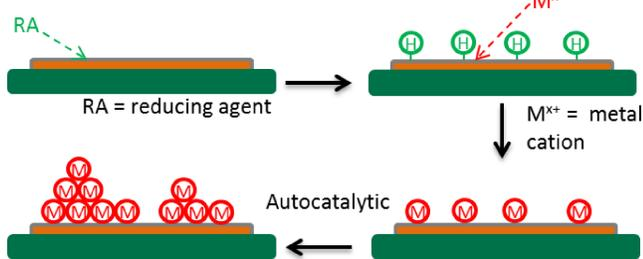

Figure 1: Schematic of autocatalytic electroless plating
**Electroless coatings** are ones where a metal is deposited from a solution containing both metal salt and reducing agent. The plating mechanism progresses by that described in **Figure 1**.